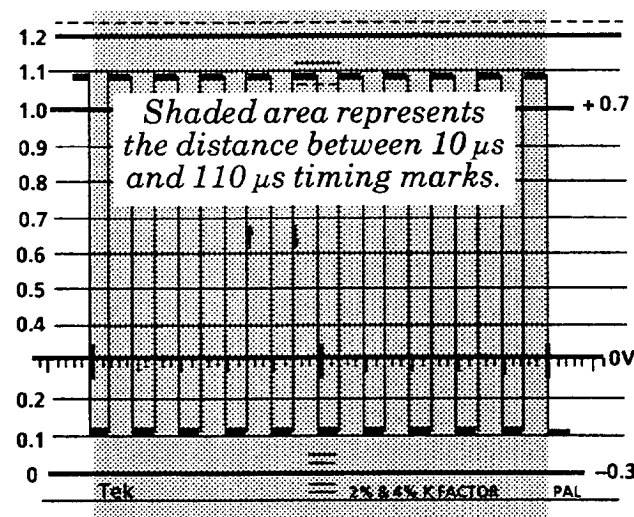

Figure 6-4: Ten full cycles of calibrator signal between timing marks
b. Use the HORIZONTAL Position control to place the first falling calibrator transition on the 10  $\mu\text{s}$  graticule mark (the timing mark on the left side of the graticule that goes completely through the blanking line). See Figure 6-4.